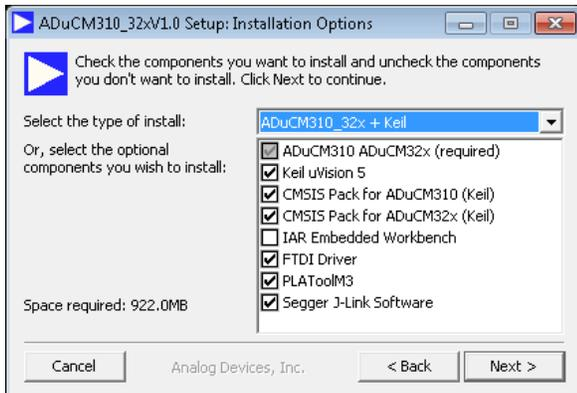
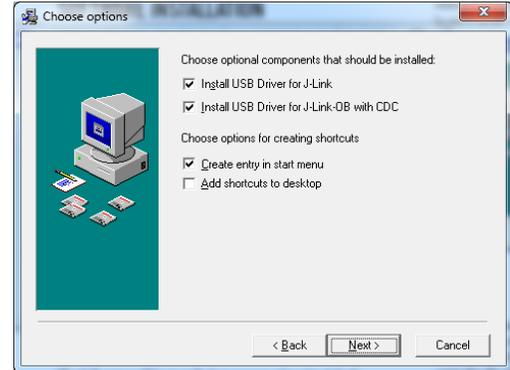

Figure 2. Installation Options
Figure 3. Installing Link Software
3. Double-click **ADuCM310_32x.exe** and follow the on-screen instructions. A menu displays installation options as shown in Figure 2.
The J-Link software is selected by default in the installation menu shown in Figure 2. It is advised to leave it selected. The J-Link software automatically installs the J-Link serial port driver. Select **Install USB Driver for J-Link-OB with CDC** as shown in Figure 3. If that step is missed, run `JLinkCDCInstaller_V1.2b.exe` located in the **ADuCM322\Segger** folder.